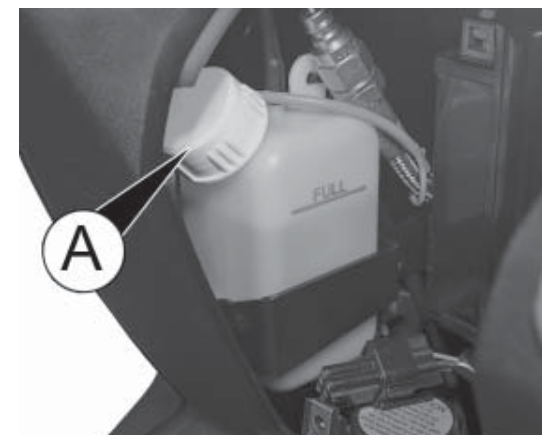

fig. 3
- Check that the coolant in the reservoir is near the FULL mark fig. 3
- If it is necessary to top up the coolant, remove the cap A fig. 3 from the reservoir to access it, or contact an authorised Quadro dealer or service centre